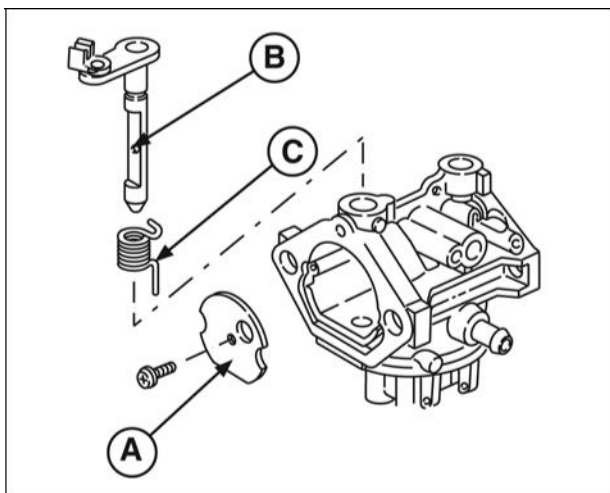

Figure 11
9. Remove screw and choke plate (A, Figure 11).
10. Remove choke shaft (B) and spring (C).